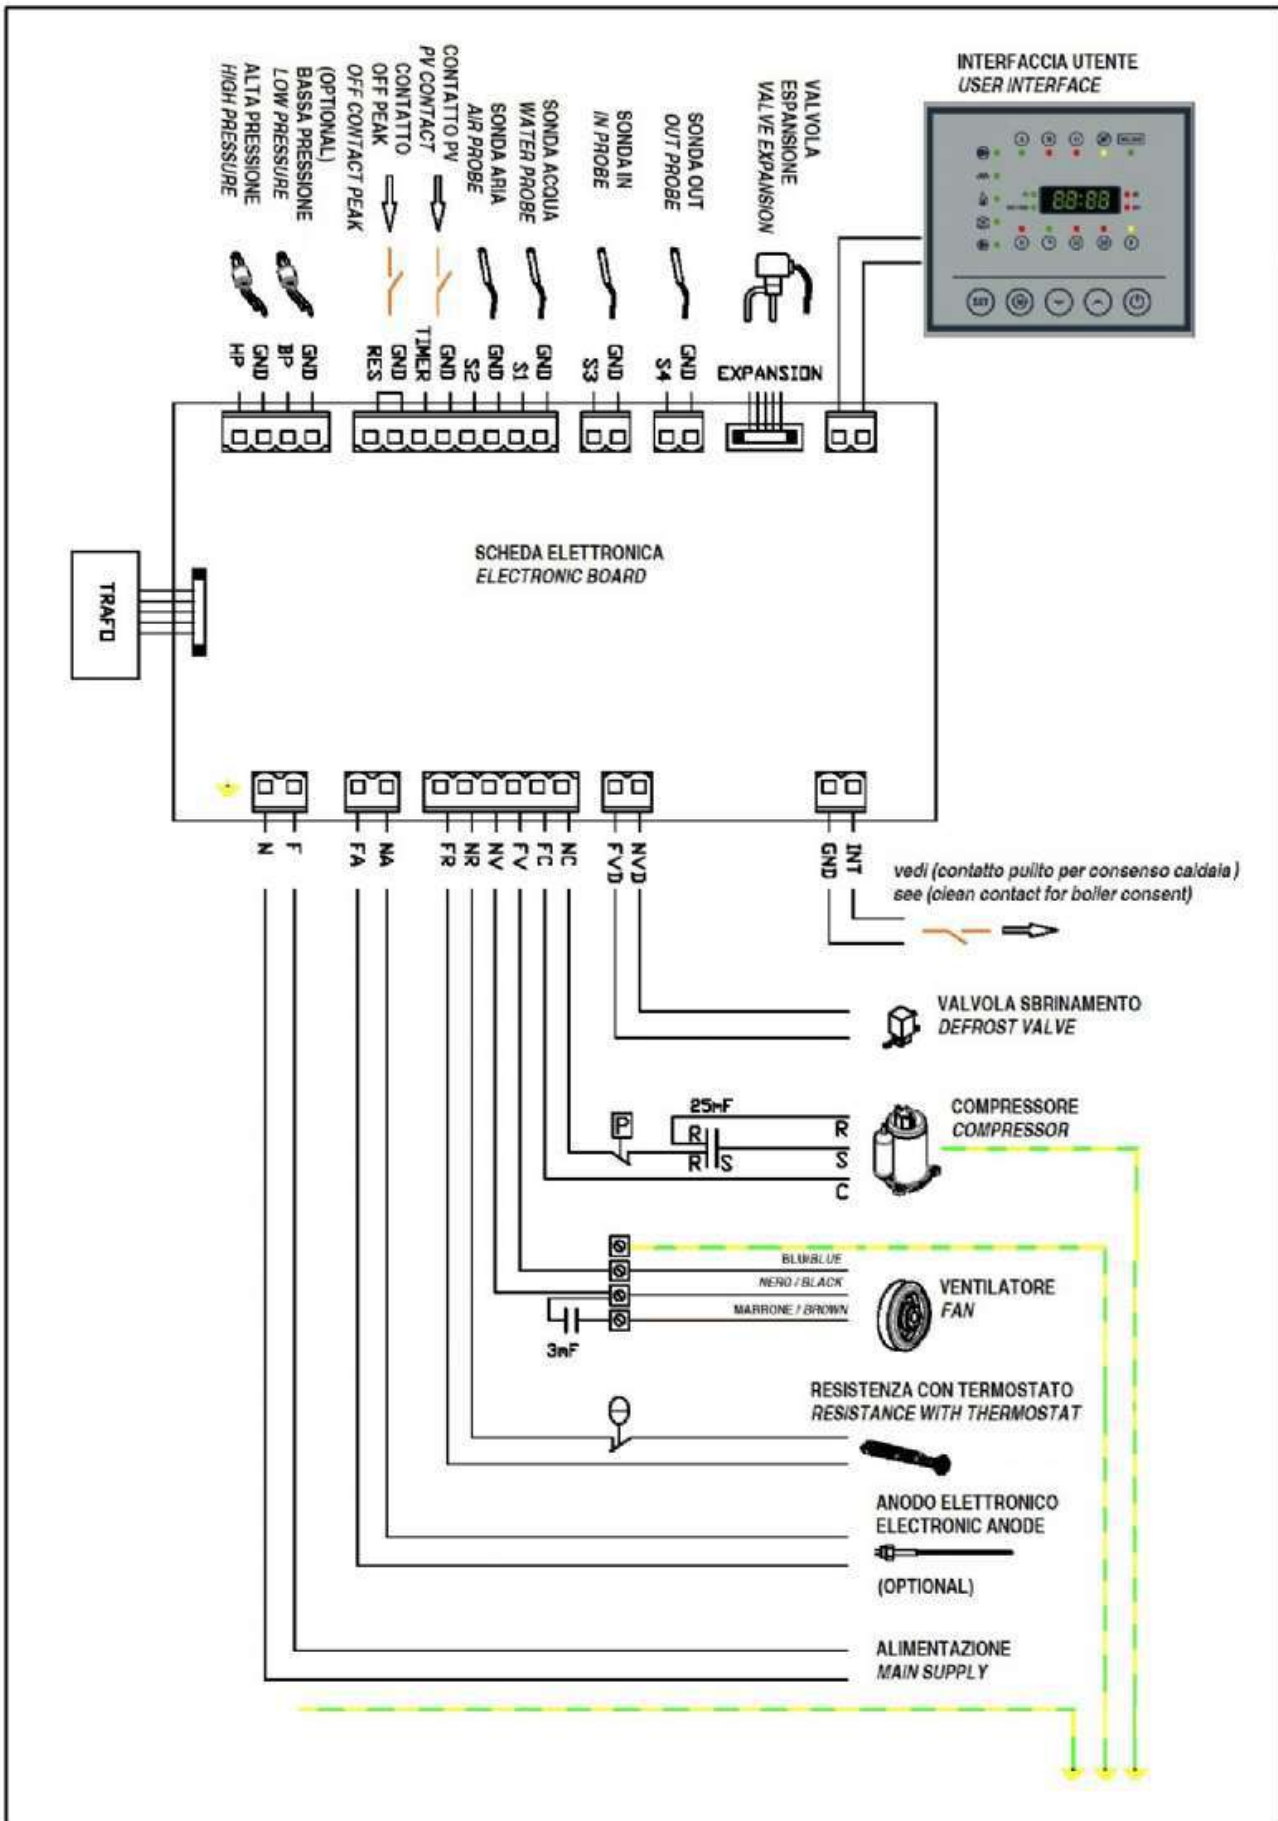

Fig. 10
SCHEDA ELETTRONICA (FIG. 10)
ELECTRONIC BOARD (FIG. 10)
**INGRESSI / USCITE SCHEDA ELETTRONICA (FIG.10)****INGRESSI DIGITALI**
ELECTRONIC CARD INPUTS / OUTPUTS (FIG.10)**DIGITAL INPUTS**